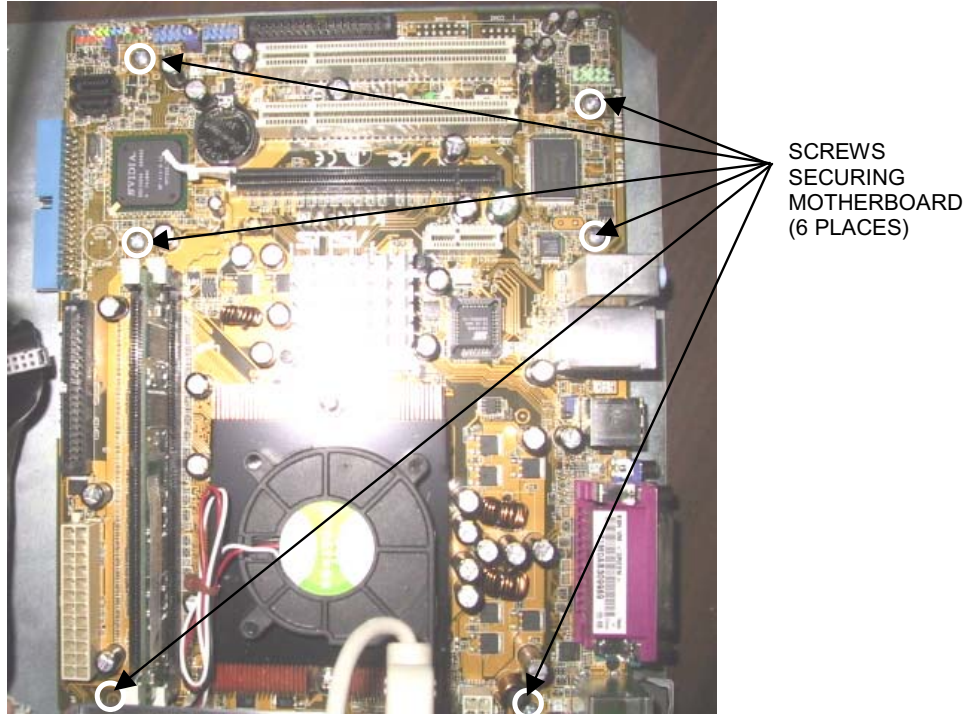
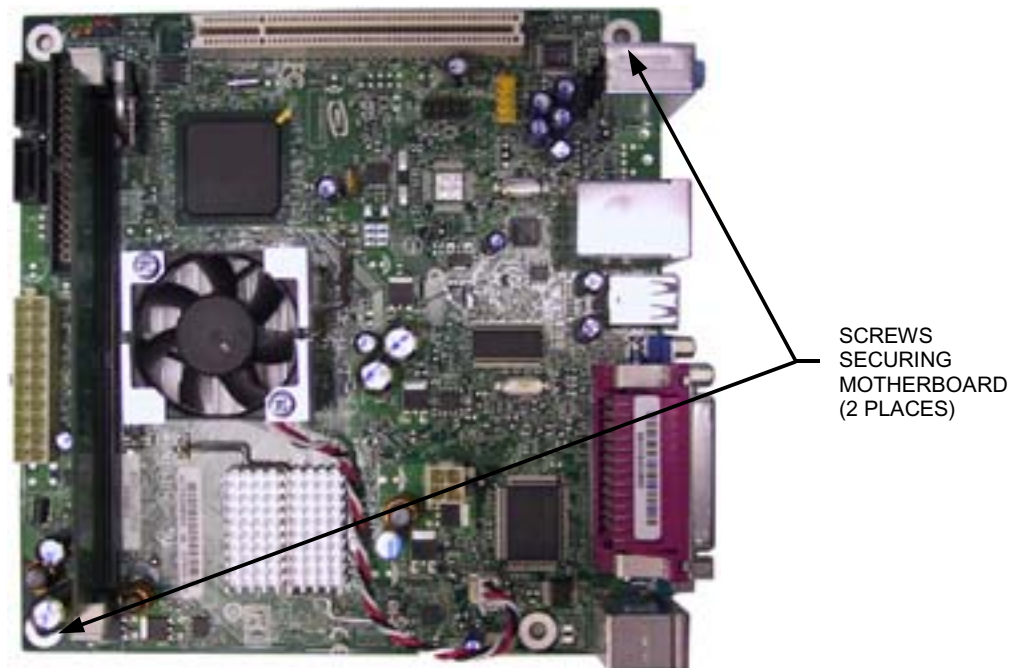

FIGURE 6 - SCREWS SECURING MOTHERBOARD TO GAME
FIGURE 7 - SCREWS SECURING MOTHERBOARD TO GAME
8. Move the hard drive/power supply tower out of the way of the motherboard by tilting it on its hinge 90 degrees to the left and supporting (if necessary). Remove all motherboard connections, noting their positions, and unscrew the motherboard in 6 places on a standard Aurora (see Figure 6), or in 2 places on an Aurora Widescreen (see Figure 7). Remove the motherboard from the tray.
1. Situate the new motherboard on top of the fish paper, and secure to the electronics tray with 6 screws in a standard Aurora (see Figure 6) or 2 screws in an Aurora Widescreen (see Figure 7).
2. Restore all motherboard connections. Restore the hard drive/power supply tower to its upright position, and slide the electronics tray back into place, making sure that the connectors on the back of the hard drive bracket click into the connectors on the wall of the game, if applicable (see Figure 7). If you disconnected three connectors from the electronics tray to the game (see Figure 5), reconnect them. Secure the tray by screwing in the thumbscrew. See Figure 4.